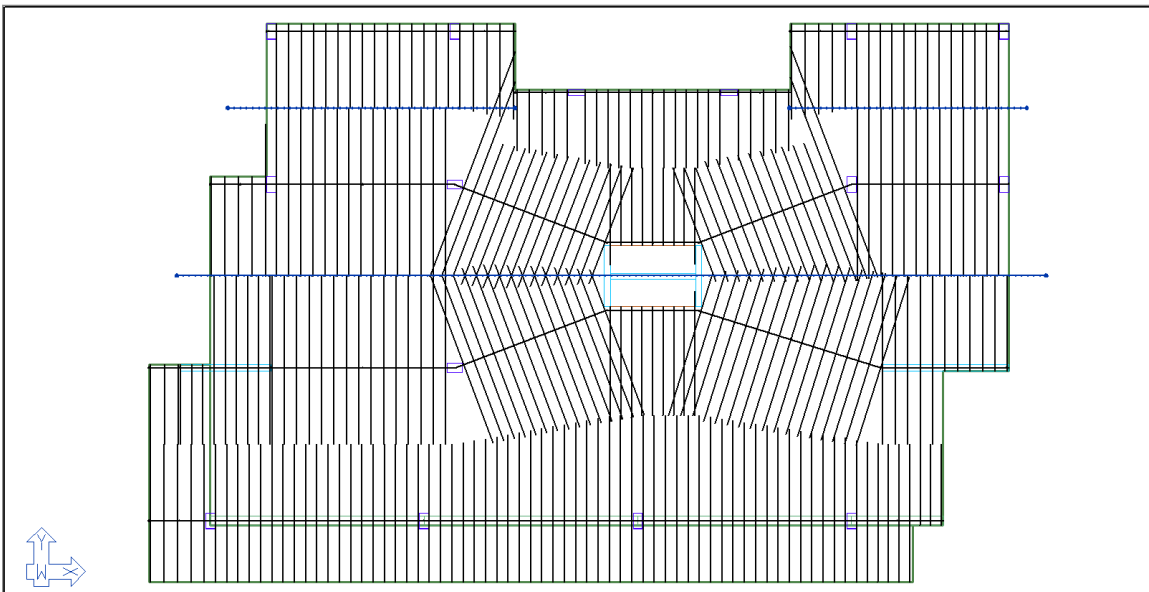

FIGURE 9-26
- Click **ESC** key on your keyboard to exit out of the *Create X-direction Splitter* tool. When finished the users screen should look similar to **FIGURE 9-26**.